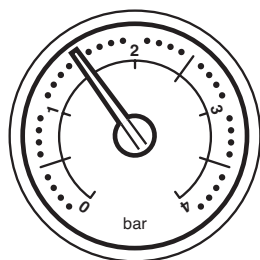
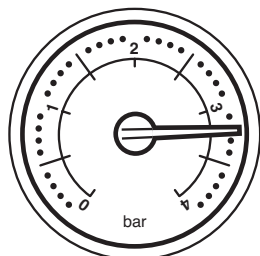

Fig. 4
Fig. 6
1. The normal operating water pressure is between 1 and 2.5 bar (Fig. 4). If the pressure exceeds 3 bar the safety pressure valve will operate and a fault is indicated (Fig. 6). Contact your installer.
All CORGI registered installers carry a CORGI identification card (see Fig. 6) and have a registration number. You can check your installer is registered by telephoning 0870 4012300 or writing to:-